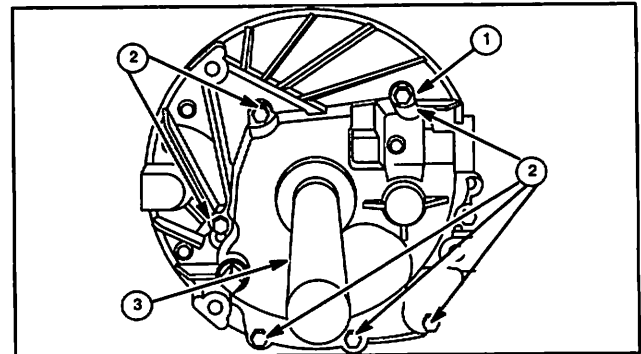

Fig. 50
7. Place non-hardening sealant such as Permatex® II, on screw (1) that enters the breather chamber, Fig. 50, and install sump screws.